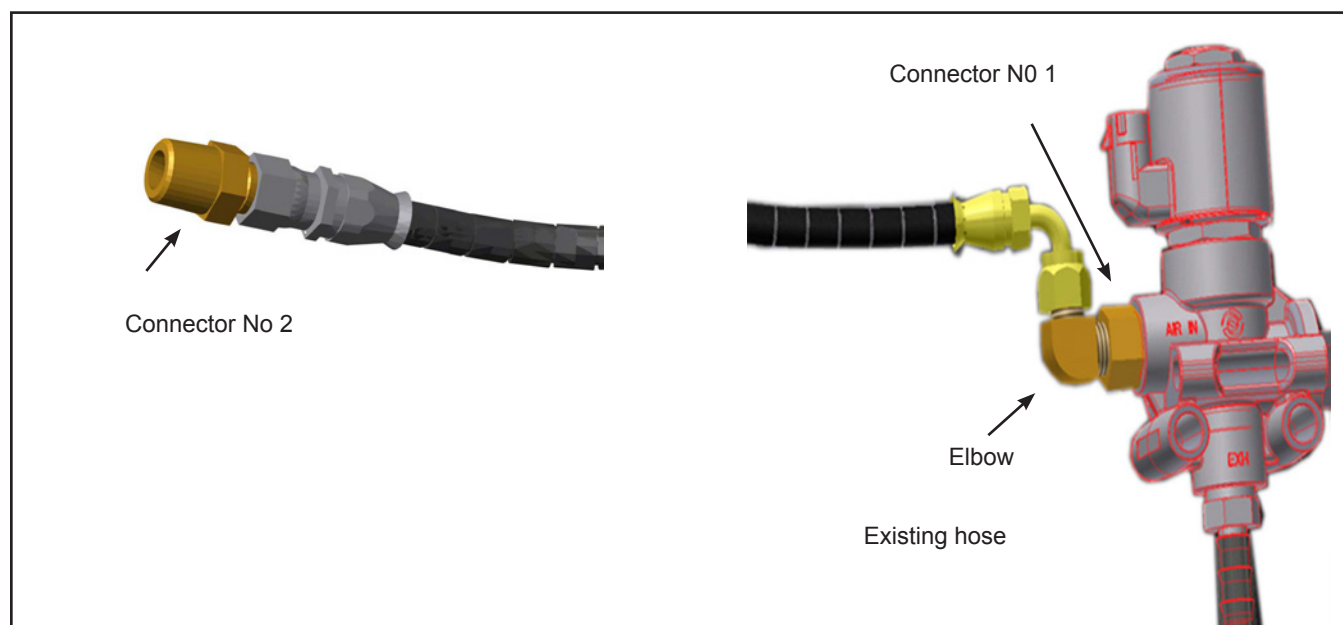

Figure 3 - Existing Retarder Air Line Assembly
- 1.5. Remove and dispose of the existing elbow. See Figure 3.
- 1.6. Remove and dispose of the existing connector No 1. See Figure 3.
- 1.7. Remove and dispose of the existing connector No 2. See Figure 3.